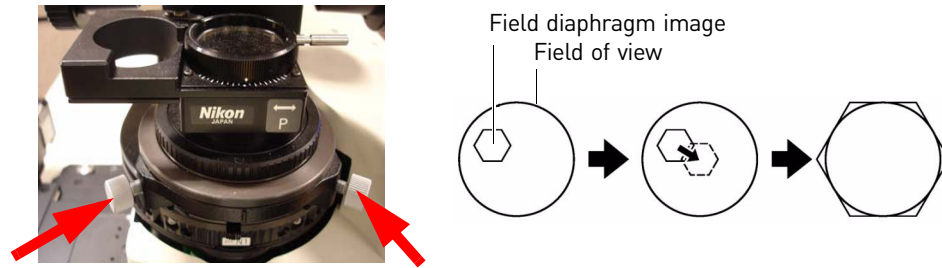

Figure 29 Condenser-centering screws and condenser alignment
- Turn the two condenser-centering screws to move the field diaphragm to the center of the field of view (see Figure 29).